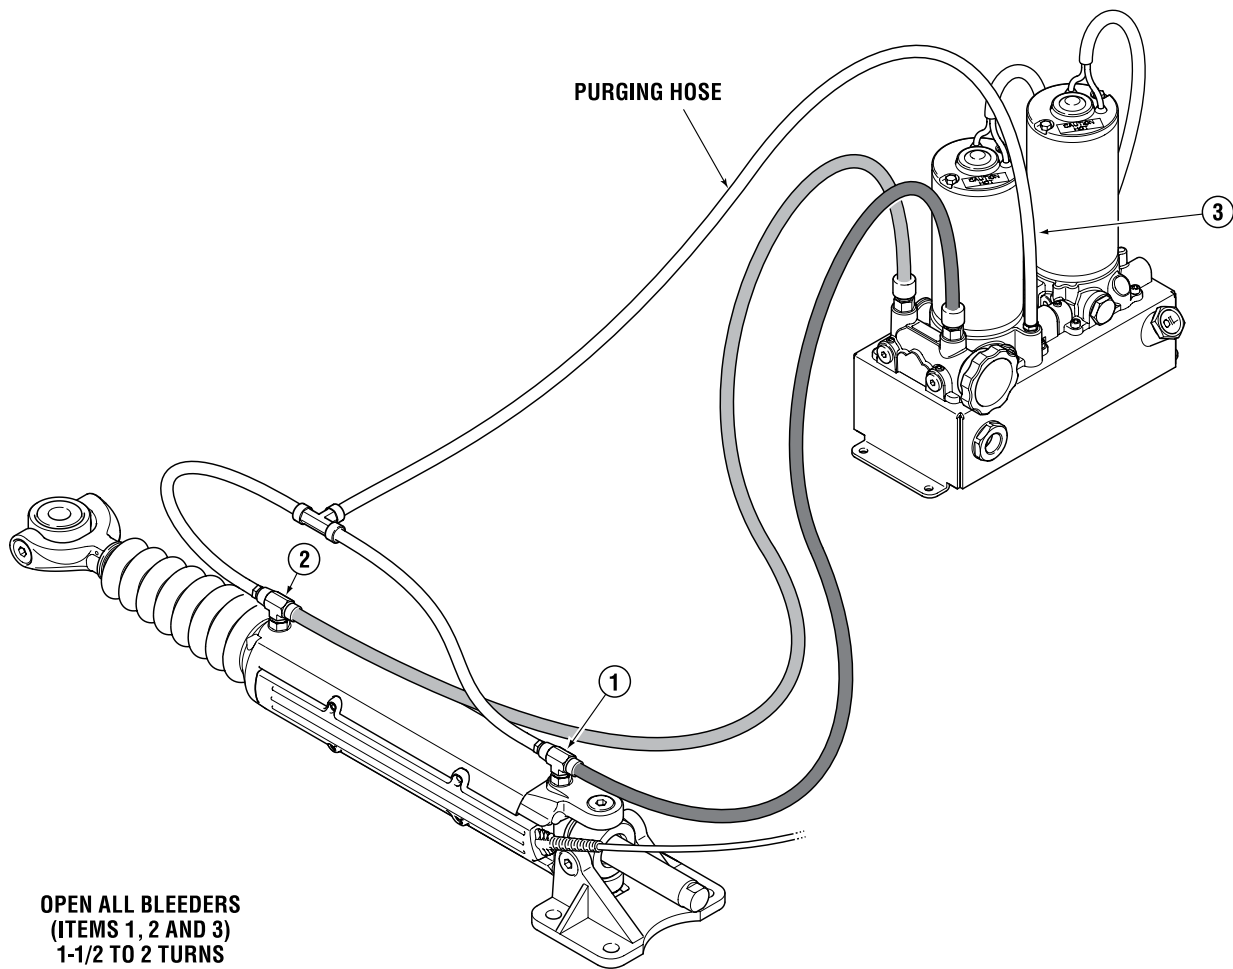

Figure 7-3.
2. Connect the purge hose as shown in figure 7-3.
Failure to open the pump bleed fitting (item 3 in figure 7-3) may cause the purge hose to rupture.